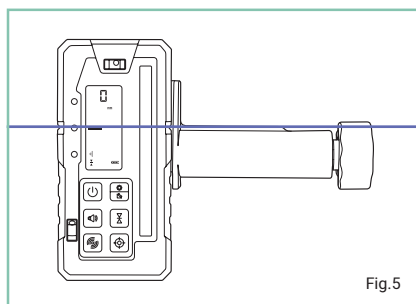

Fig.5
- When the level position has been located, the speaker will emit a constant beep and show the centre alignment line on the LCD screen (Fig.5).